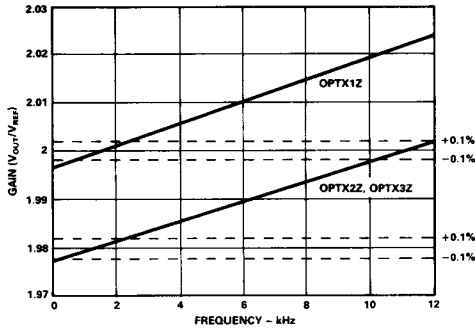

Figure 4. Gain ($V_{SIN}, V_{COS}/V_{REF}$) vs. Frequency
The gain (input to output SIN, COS voltages) of the standard part is $\times 2 \pm 0.1\%$ (Option X1Z) over the frequency range dc to 2.6 kHz. As can be seen from Figure 4, the gain at 10 kHz is $\times 2.02 \pm 0.1\%$.
2.6 kHz. From Figure 4 can be seen that the gain for the autonull part is typically $\times 2 + 0.1\%$ at 10 kHz.